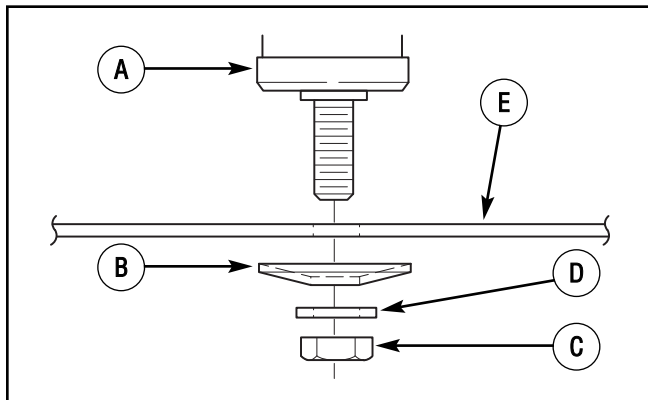

Figure 20: Blade assembly
8. Fasten the **blade** with the original washers and nut. Make sure the outside rim of the **Belleville washer** is against the **blade** (Figure 20).